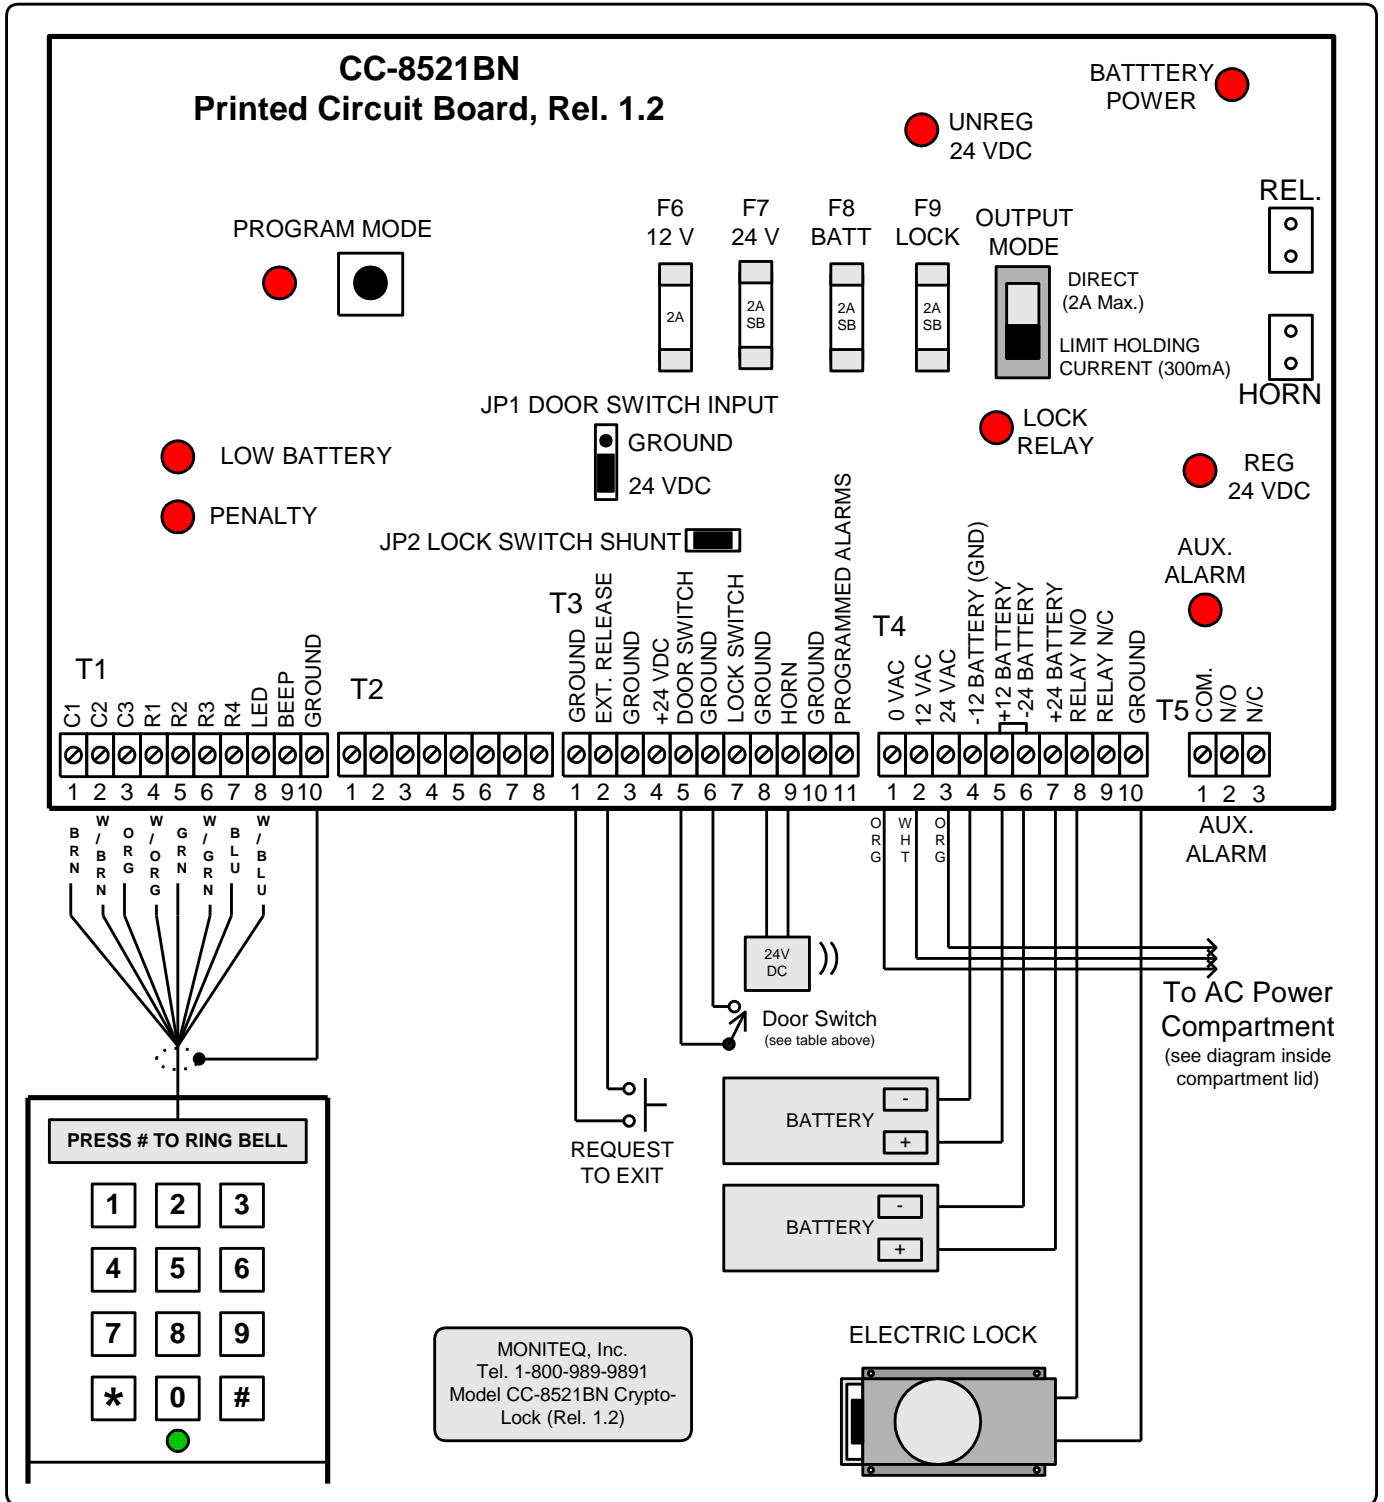

Figure 5-1, Wiring Diagram for External Devices
4. Connect the Keypad to the Control Panel as shown in Figure 5-1. Twenty feet of cable is supplied with the Keypad. The Keypad can be located up to 100 feet from
6. Connect the electric lock as shown in Figure 5-1.
7. If used, connect an external Release Button (not supplied), and external 24Vdc annunciator or horn (not supplied), as shown in Figure 5-1. Note that an internal horn in the Control Panel will sound when the Keypad's # button is pressed and for various alarm functions.
8. If the Door Propped Alarm, Forced Door Alarm or Anti-Tailgating functions will be used, connect the door switch or transducer to the Control Panel as shown in Figure 5-1. This input can be configured to accept various input signals as outlined in the Table below.
10. Install and connect the batteries as shown in Figure 5-1 using the two supplied
The system includes a number of functions that make it possible to monitor the status of the door during operation. With the exception of the Open Duration function, these features require that a door position sensor be installed on the door and connected to the Control Panel as illustrated in Figure 5-1.
The Keypad has a built-in visitor annunciator button. Pressing the # key causes a horn to sound in the Control Panel. If an external sounding device is connected as shown in Figure 5-1 it will also sound when this button is pressed.